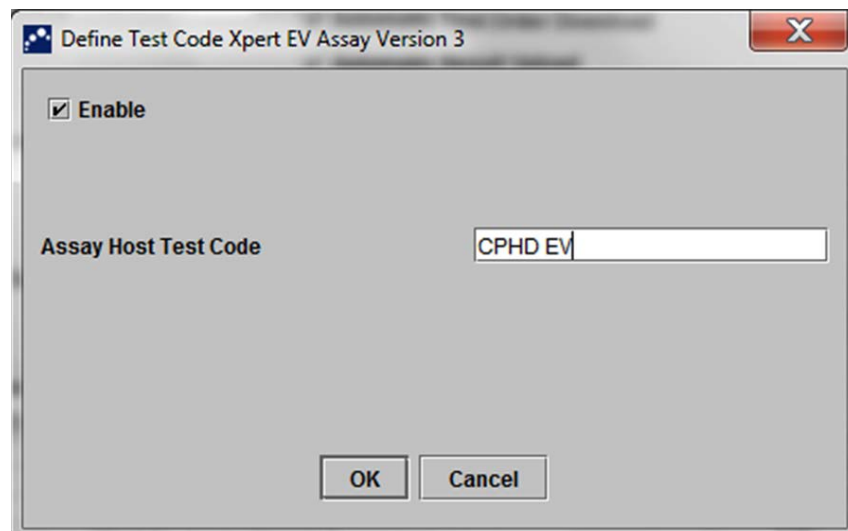

Figure 2-62. Define Test Code Dialog Box for a Single-Result Assay
2. Click the **Folders** tab. The **Folders** tab appears. See Figure 2-62.